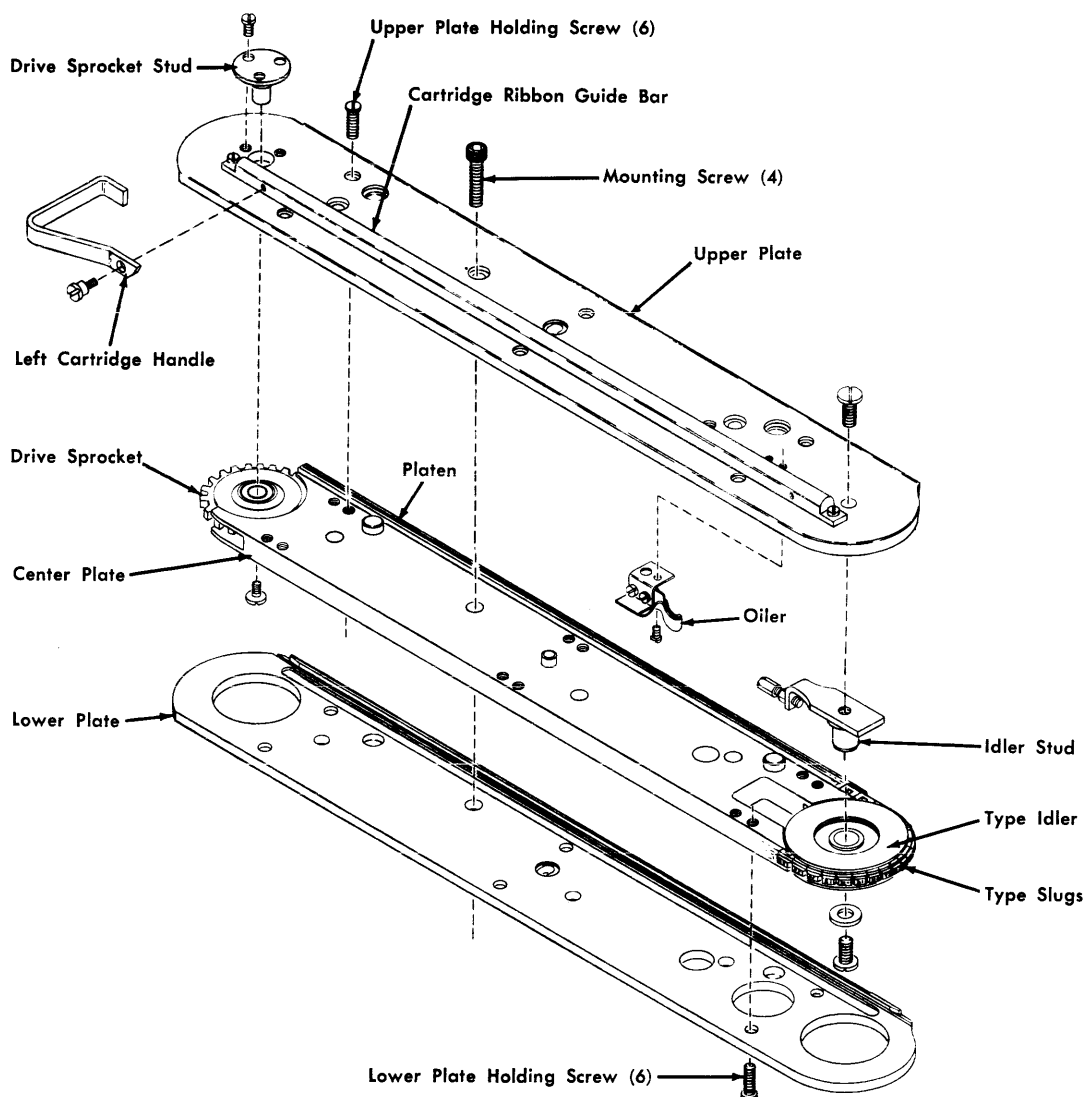

Figure 23. Fixed Cartridge Assembly
2. Remove the four allen-head screws that hold the cartridge (Figure 23).